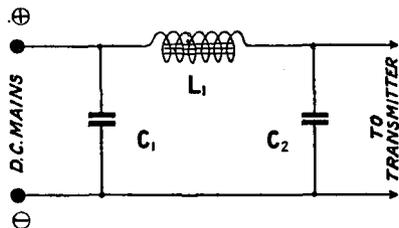
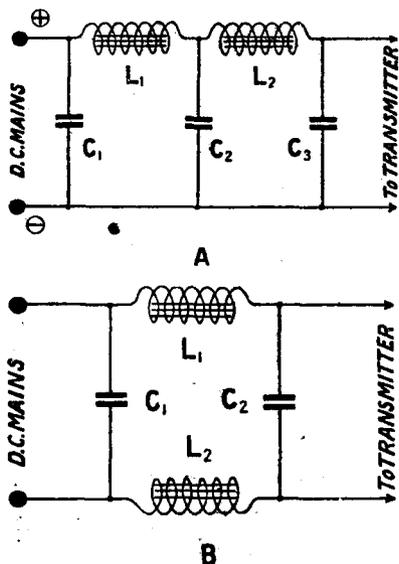

Fig. 1.—This simple filter circuit is usually adequate when power is taken from D.C. mains.
Fig. 3.—Alternative methods of improving the Fig. 1 filter circuit.
H.T. generally does away with the need for smoothing or filter circuits, even when telephony is being used, as the supply is already very steady and smooth. Should any ripple or hum be present, a very simple smoothing circuit such as that shown in Fig. 1 will do. The values of the components are: L_1 (the iron-core choke) 20 henries, while the two fixed condensers C_1 and C_2 should be 2 or 4 microfarads each.
Another means of obtaining a supply of H.T. for a valve transmitter is the use of a small generator, which may be either hand or motor driven. In this case the use of a smoothing circuit is nearly always necessary, and this may be similar to that shown in Fig. 1, but using two chokes and three condensers as shown in Fig. 3 at A, or may be arranged as at B, the values being as follows:—In A, L_1 and L_2 are 20 henries each; C_1 , C_2 and C_3 are 4 microfarads each; in B, L_1 and L_2 may be 10 henries each, C_1 and C_2 having the values previously given. It should be borne in mind that if ripple or hum is still present it is not nearly so effective merely